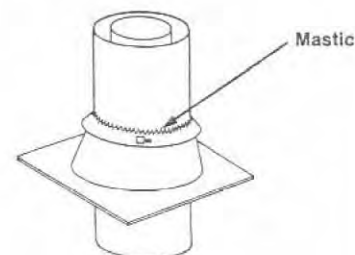

Figure 33
**Step 8:** The standard Superior roof flashing assemblies include a storm collar. Slide storm collar over outer flue, align with top surface of flashing, insert storm tab in slot, pull tight and bend tab back over slot. Seal storm collar to outer flue pipe with roof caulking or mastic around entire circumference of pipe. (Also add extra roof caulking where storm collar meets flashing and to the tab/slot area to seal completely against water penetration (Figure 33). Check all joints very carefully to ensure no water intrusion can take place.